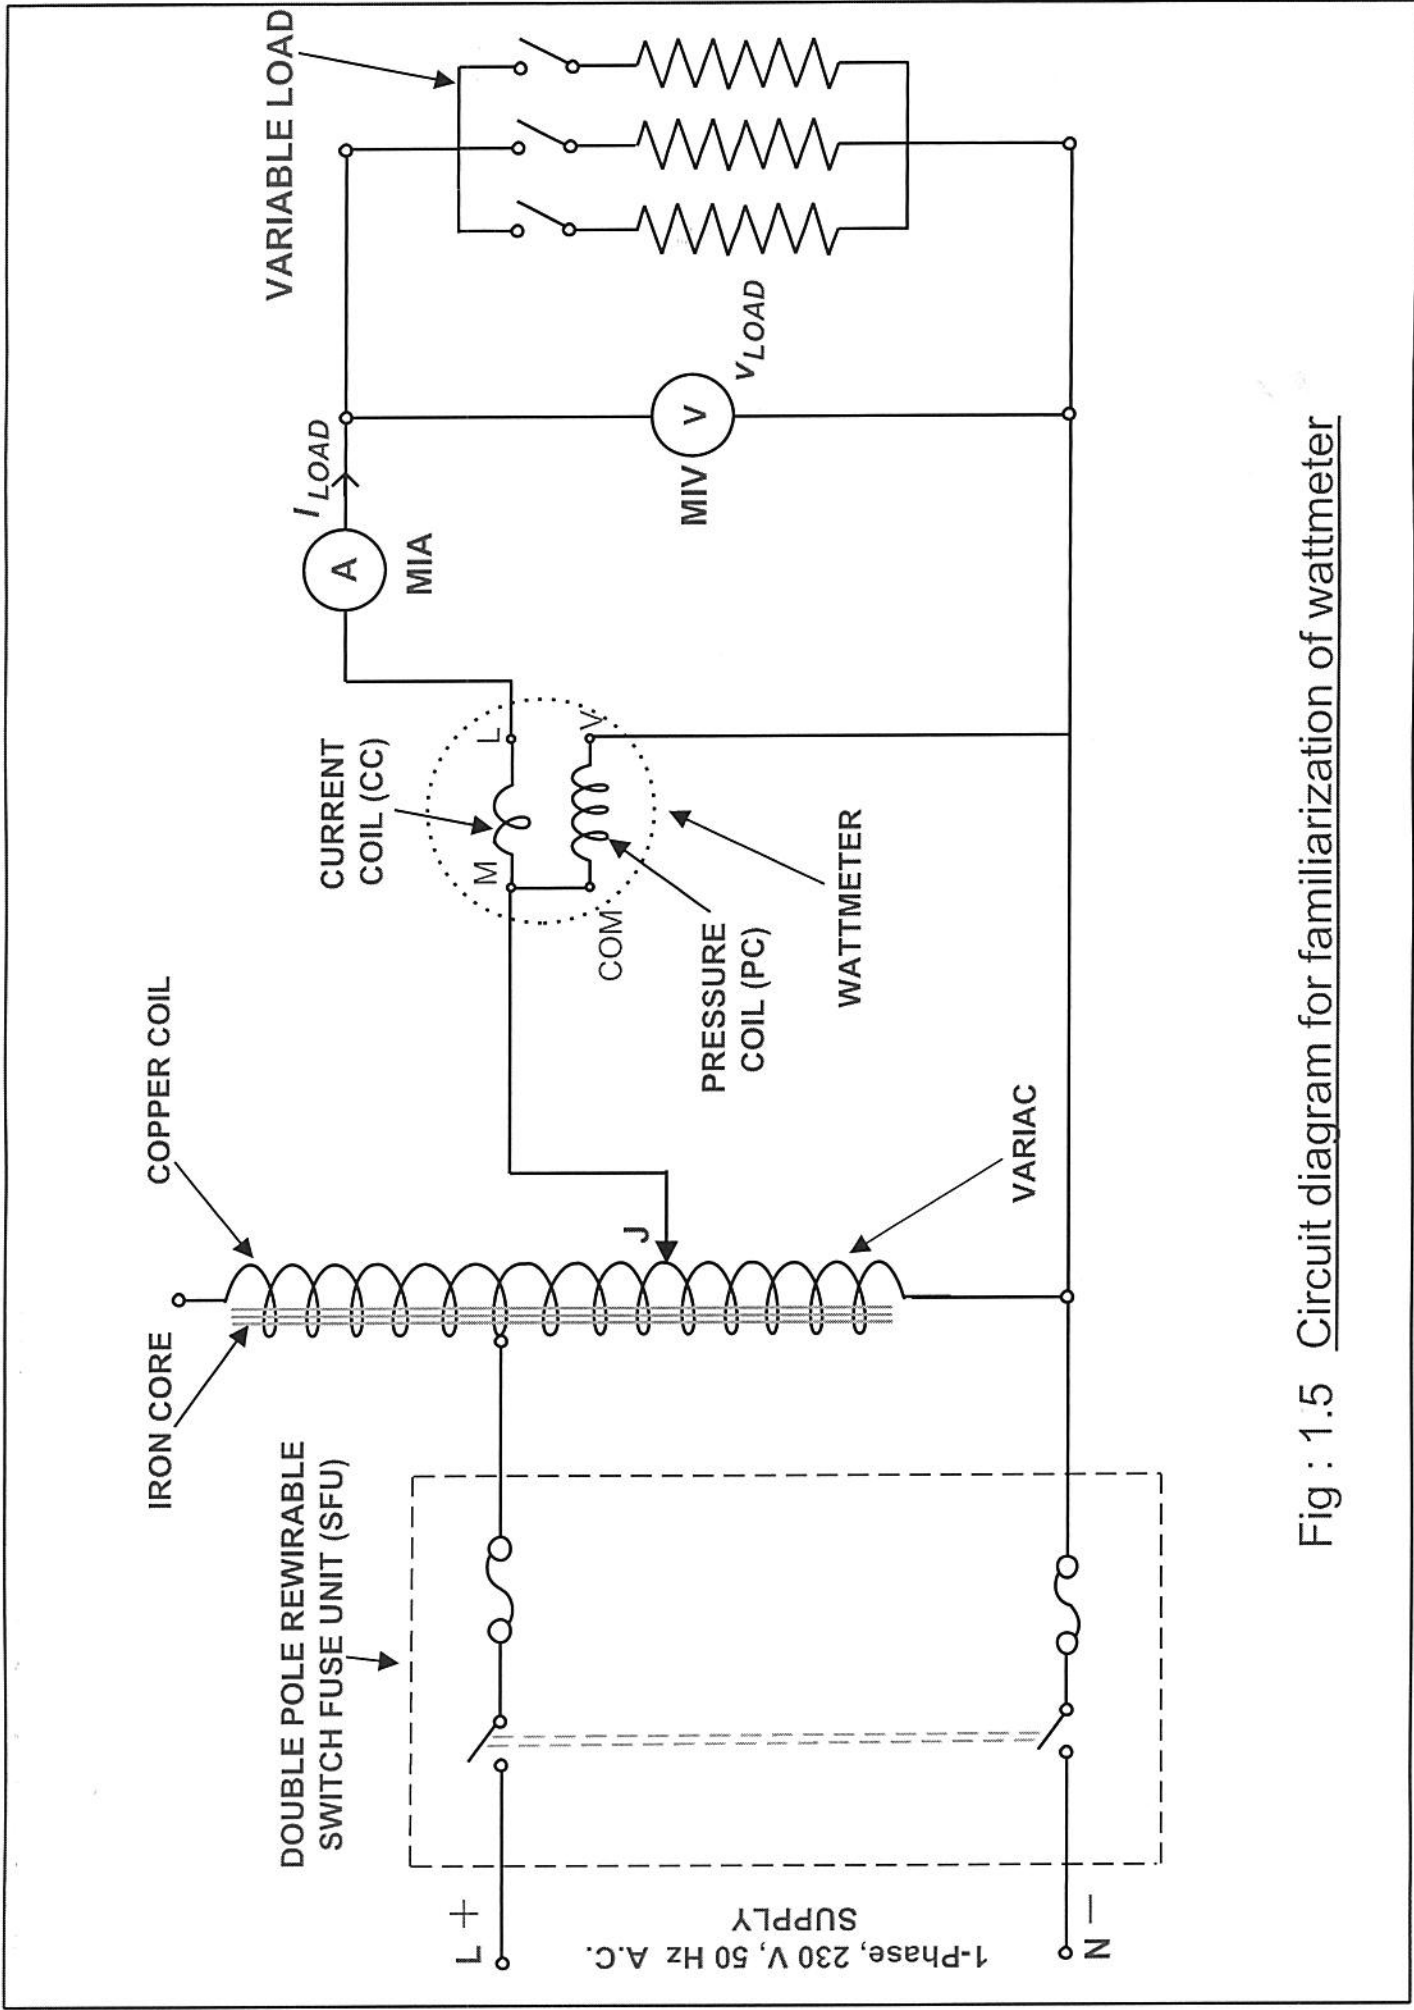

Fig : 1.5 Circuit diagram for familiarization of wattmeter
A wattmeter has a voltage coil or 'pressure coil' (PC) which senses voltage across the element for which the power is to be measured and a current coil (CC) which senses the current through that element or part of the circuit (load). Thus, a wattmeter will show a reading when its current and pressure coils are excited simultaneously. A wattmeter has at least four terminals, two for current coil and two for pressure coil . However in a usual portable wattmeter, quite often many more terminals are provided for measuring power at different currents and voltage ranges. The symbolic representation of wattmeter is shown in Fig.1.5.
- 1) Make connections as shown in the Fig.1.5 with lower current range and lower voltage range of wattmeter.
1.	Current coil terminal "M" connected to Pressure coil "COM" terminal as in Fig.1.5